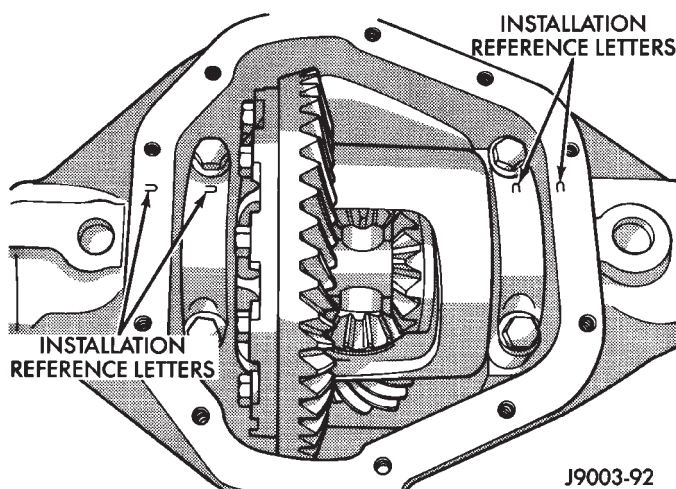

Fig. 19 Differential Bearing Cap Reference Letters
(6) Install the bearing caps at their original locations (Fig. 19).